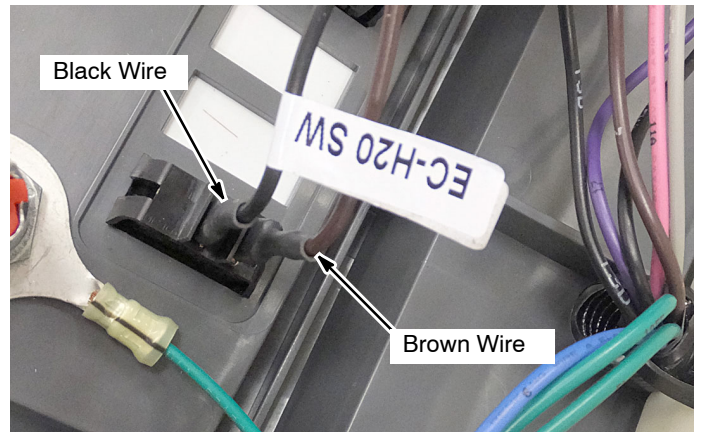

Fig. 10
- Connect the black and brown wires to the ec-H2O switch as shown (Figure 10).